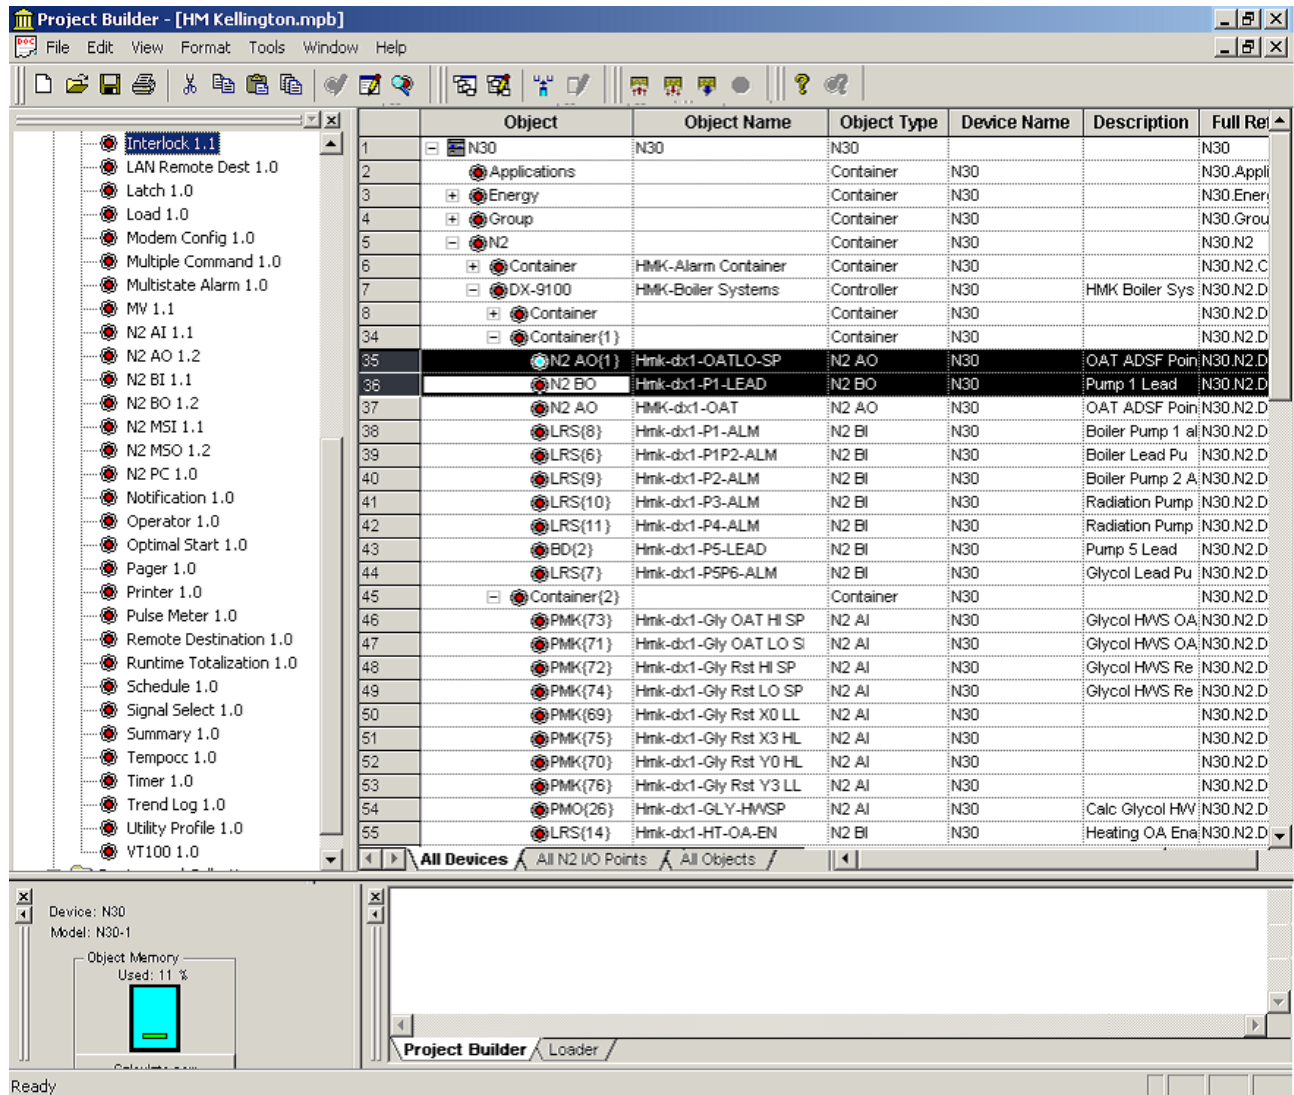

Figure 3: Project Builder - Creating New Points
2. Modify the current database of the N30, and change the Object Type from AI to Analog Output (AO) and BI to Binary Output (BO), if commands are required.
3. Before you add the new points, write down the original object names. In this example, the original names are ADF(1) and BD(1).
5. Create new points. In this example, the points are N2 AO(1)- Hmk-dx1-OATLO-SP - N2 AO, and N2 BO - Hmk-dx1-P1-LEAD - N2 BO (Figure 3).